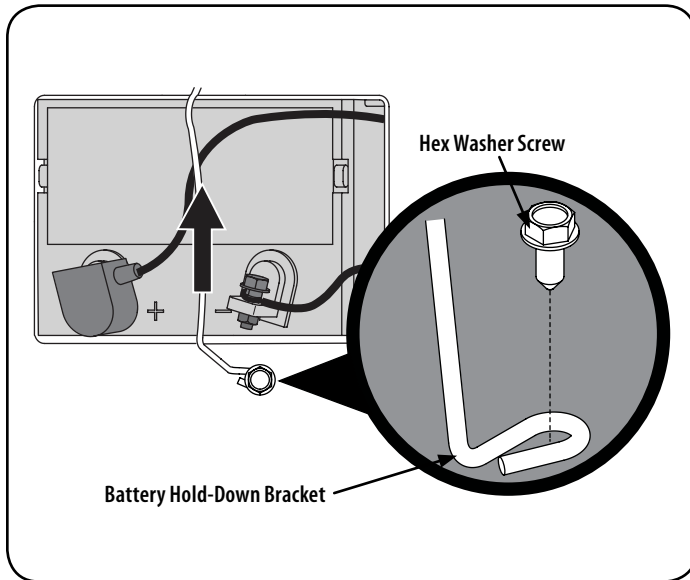

Figure 28
1. Remove the hex washer screw securing the battery hold-down bracket to the frame. Then flip the battery hold-down bracket up to free the battery. See Figure 28.